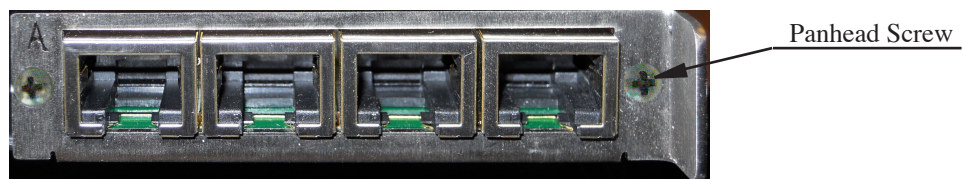

Figure 4. Assembled Card
- Tighten the daughter card down (Figure 4) with the supplied two Phillips panhead screws (included in the console's connector kit).